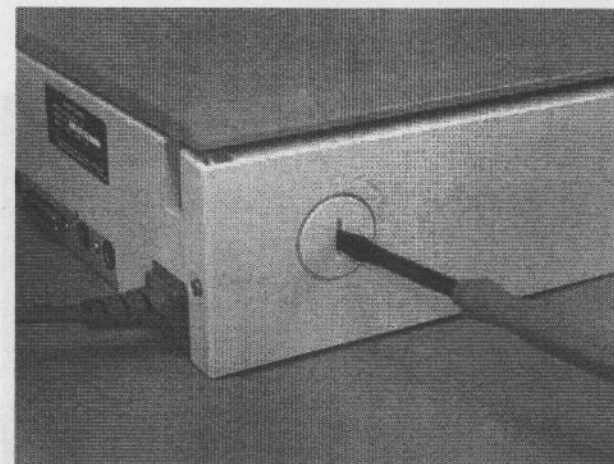

Figure 4-2. Carriage Lock Position
1. Release the carriage lock located at left side of the scanner body by using (-) screwdriver. See Figure 4-2.